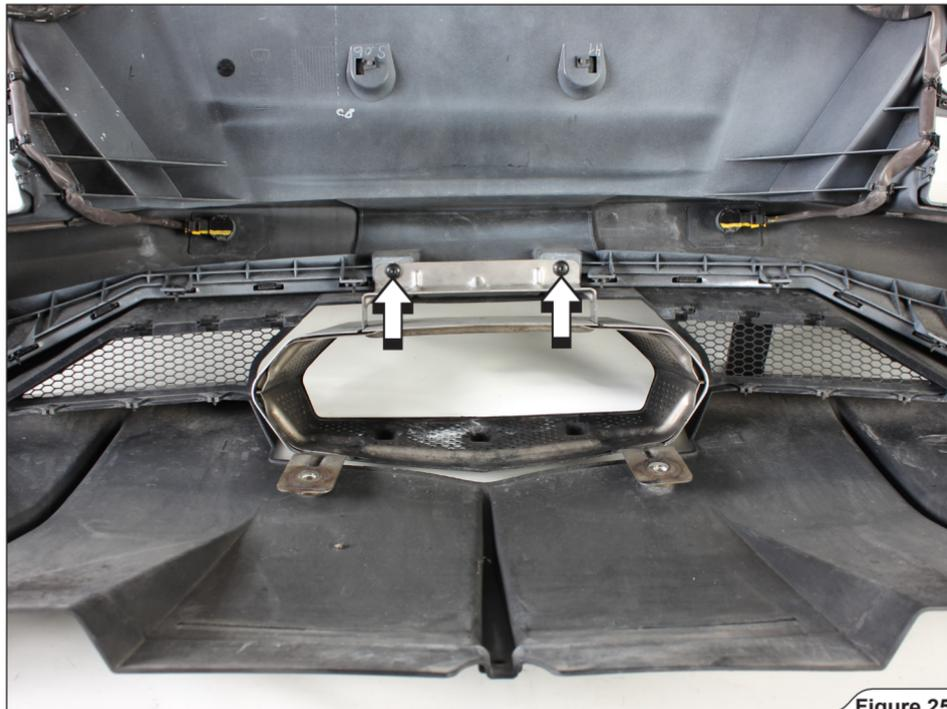

Figure 25
17. Unscrew the marked bolts and remove the tail pipe off the rear bumper (Figure 25).